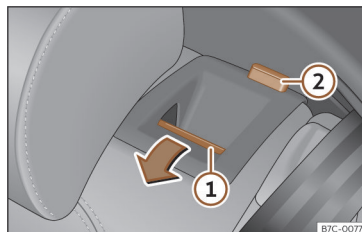

Fig. 108 Rear seat: folding the backrest.
- Press the unlock button»» Fig. 108 ① forwards and at the same time fold the backrest down. The rear seat backrest is not engaged when the red marking of the button ② is visible.
The rear seat backrest is not engaged when the red marking of the button»» Fig. 108 ② is visible.